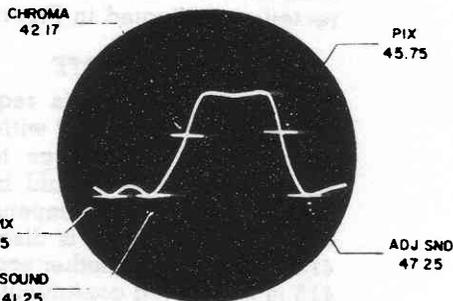

Figure 5.6 Response Curve of Figure 5.5 with Markers Tilted
5.3.6 The markers can be tilted to a horizontal position by use of the MARKER DISPLAY switch as shown in Figure 5.6. The MARKER AMPLITUDE control can be adjusted to give the best compromise between vertical and horizontal marker size.